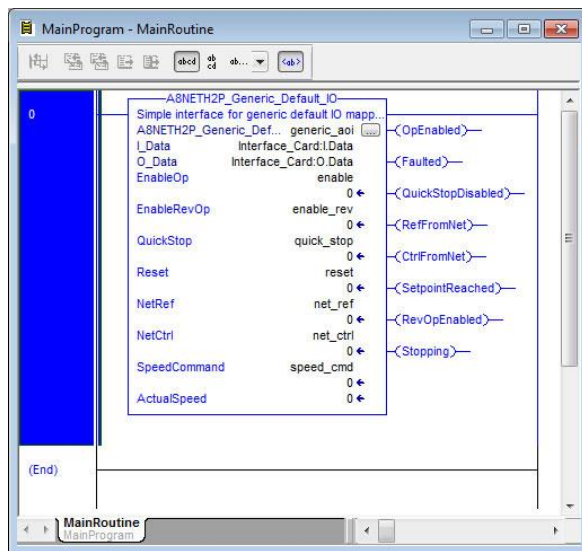

Figure 34: Configure Generic Default AOI
- 10) Edit the add-on instruction according to Figure 34.